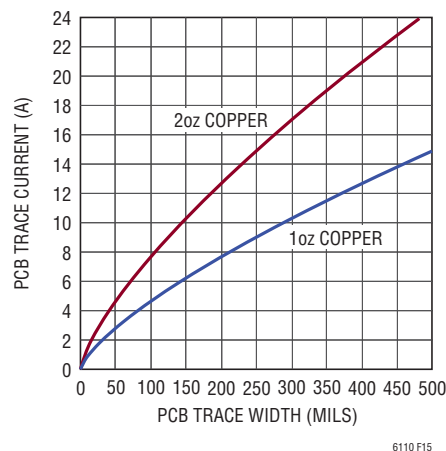

Figure 15. PCB Trace Current vs Trace Width (<10°C Temperature Rise)
In a high load current application without a high precision load regulation specification, the cost of an external R_{SENSE} resistor can be eliminated using the resistance of a printed circuit board, PCB, trace as a sense resistor. The resistance, R_{PCB}, is a function of copper resistivity (ρ), PCB copper thickness (T), trace width (W) and trace length (L), R_{PCB} = ρ (L/(T • W)). The typical manufacturing of PCB fabrication limits the trace resistance tolerance to ±15%. A simplified R_{PCB} calculation sets the length equal to the width (L/W = 1) and approximates 0.5mΩ and 0.25mΩ per square trace area for 1oz and 2oz copper respectively. The maximum current of a PCB trace depends on the trace cross sectional area, trace width (W) times copper thickness (T) and the amount of heating of the trace permitted. Figure 15 plots PCB trace current vs PCB trace width for 1oz (T = 1.4mils) and 2oz (T = 2.8mils) copper for less than 10°C temperature rise (this graph provides a conservative maximum trace current estimate based on the ANSI IPC2221 standard).
Using Figure 15, the 2oz copper minimum trace width for 10A is 150mils. This sets the current handling capability of the trace.